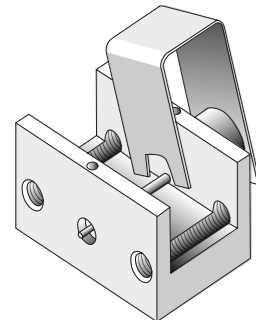

Figure 5. Glass Bead Holding Fixture Secured with Spring Clip
- Hold the holding fixture in place by using the spring clip furnished with the fixture (Figure 5) or the K103 outer conductor (Figure 1). If spring clip is used, position it so as not to obstruct the solder access hole in housing. Ensure that glass bead is centered, and that it is making good contact with microstrip.